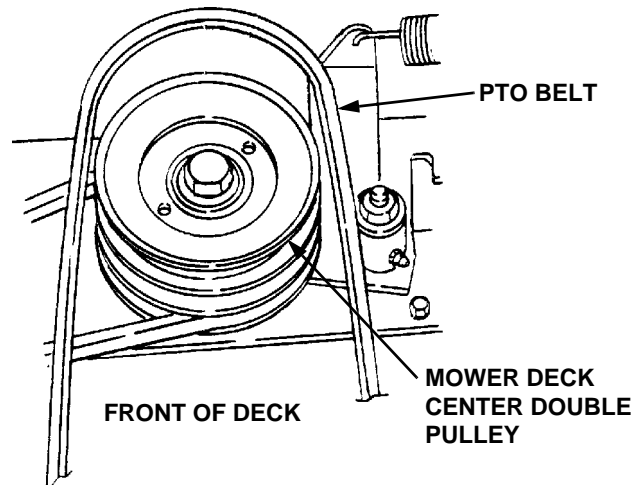

Figure 60
13. Install the rearward end of the PTO belt on the upper pulley of the deck center double-pulley (Refer to Figure 60). Ensure that the narrow side of the belt engages the groove of the upper pulley.